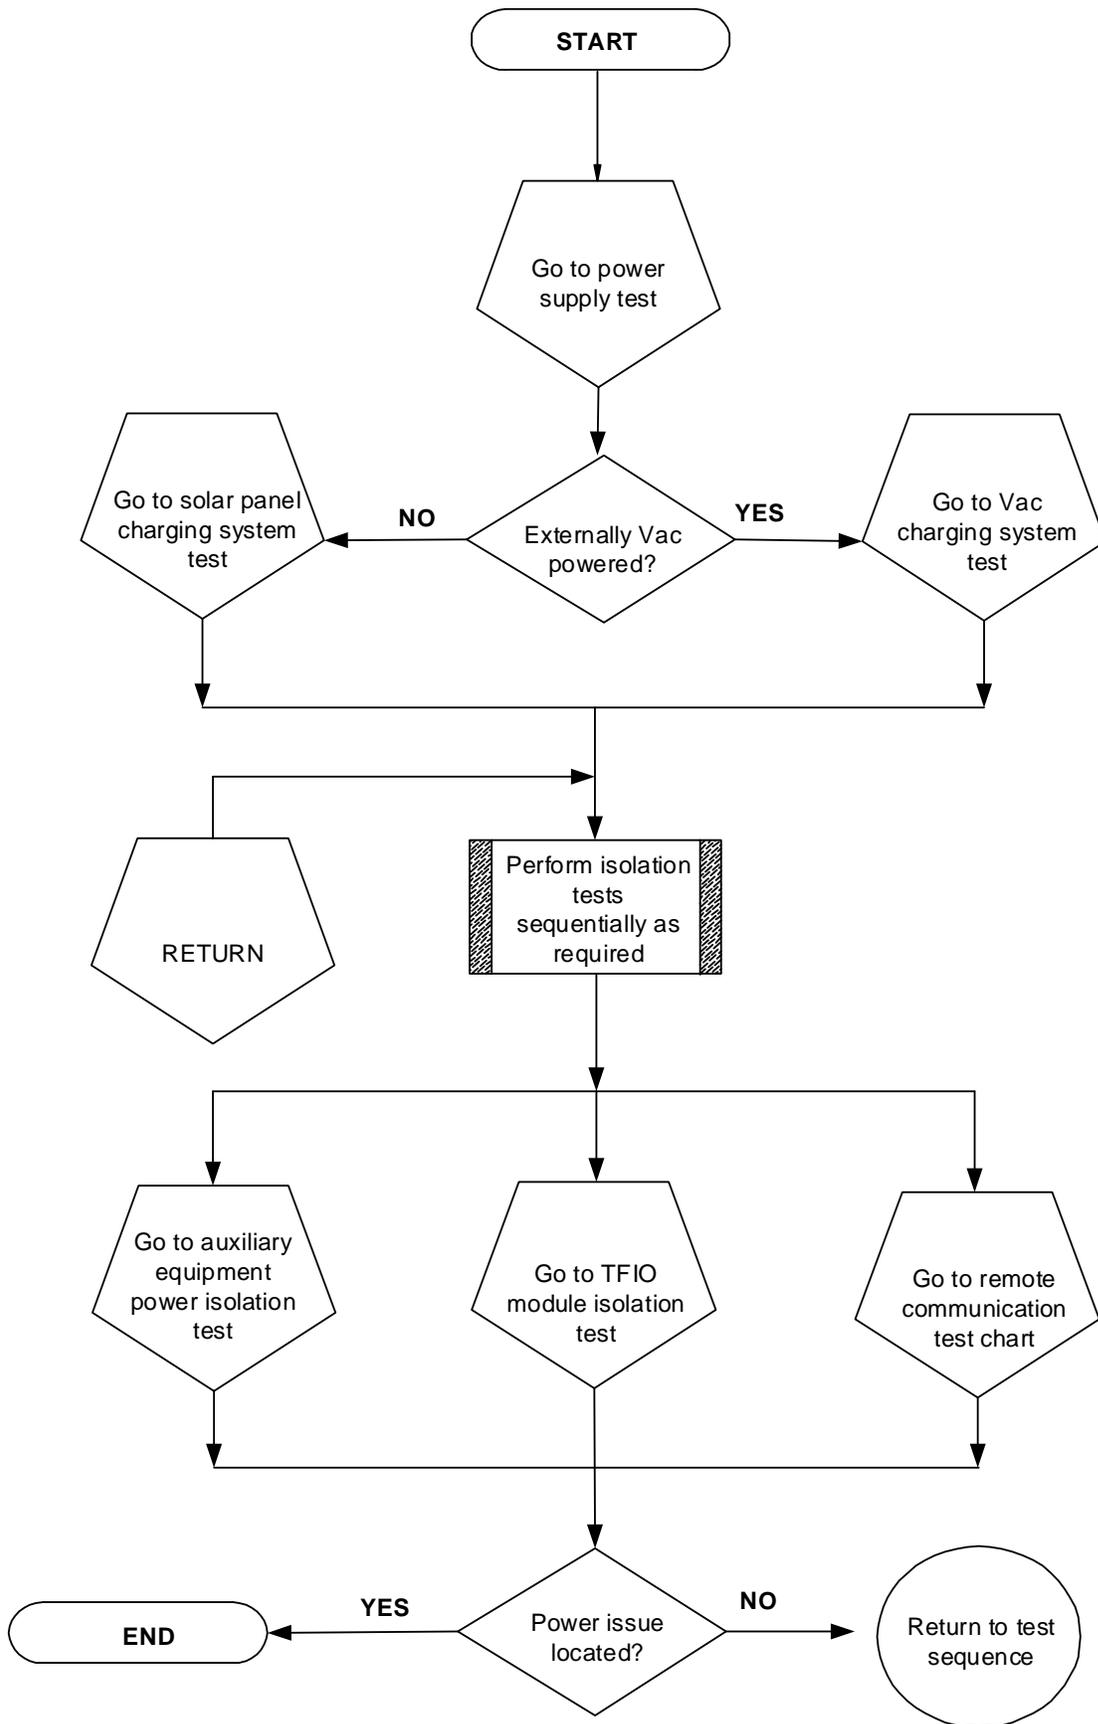
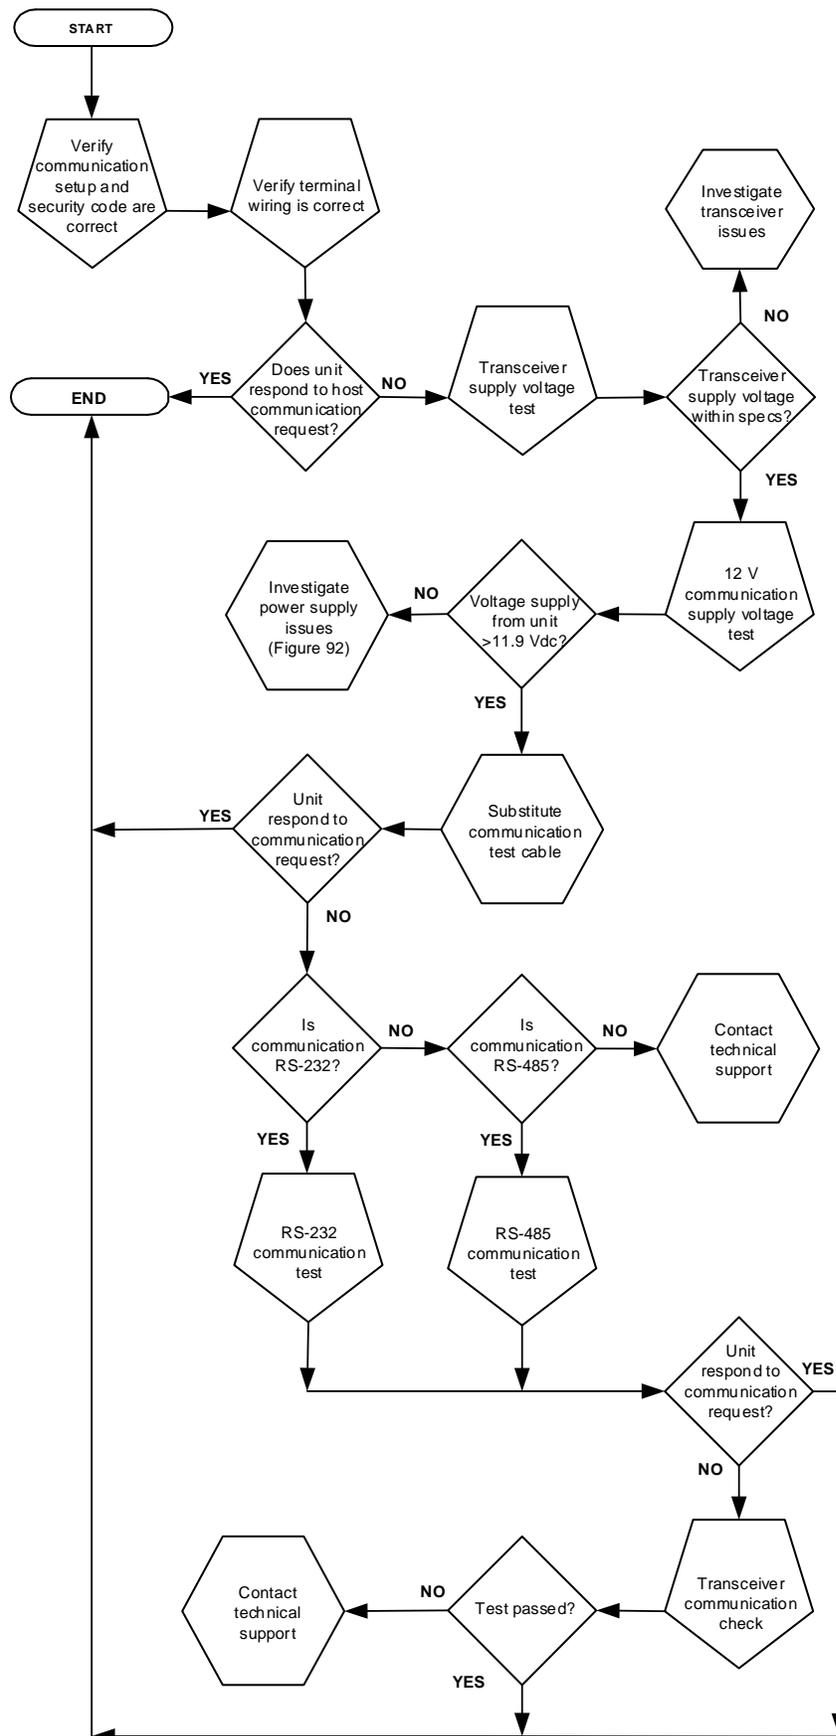

Figure 92: Power troubleshooting flowchart
Figure 95: Communication troubleshooting flowchart
5. If the voltage is still low, investigate the power issues using the *Power Troubleshooting* flow chart (Figure 92 on page 128).
9.2.2 Troubleshooting a Low Lithium alarm (LL)
This section focuses on determining what has caused the μ FLO^{G5} to lose power. Generally, loss of power can be attributed to only the power supply system. However, if the power supply system is used for powering a transceiver or other peripheral equipment, an issue with that equipment may drain the battery and cause the μ FLO^{G5} to lose power. Notice that the *Power troubleshooting flowchart* (Figure 92) outlines several tests but may also indicate using the *Communication troubleshooting flowchart* (Figure 95, on page 133).
11. Measure the voltage at the charging source cable. Measure the voltage at the battery. Compare the voltages. If the charging source voltage is less than (+) 0.4 Vdc higher than the battery voltage, return to Figure 92, *Power troubleshooting flowchart*, on page 128.
17. If an issue still exists, return to Figure 92, *Power troubleshooting flowchart*, on page 128.
9. If an issue still exists, return to Figure 92, *Power troubleshooting flowchart*, on page 128.
5. Using the DMM, connect to the troubleshooting cable, and measure the average current. If it is equal to or greater than 80 mA at 12 Vdc, disconnect the battery and reconnect one (1) auxiliary item and continue to the next step. If the average current is less than the specification, replace the μ FLO^{G5} electronic board. Follow the procedures detailed in section 7.8.4, *μ FLOG5 electronic board replacement*, on page 103.
8. If the power drain has not been located, return to Figure 92, *Power troubleshooting flowchart*, on page 128.
Troubleshooting the communications for this unit requires that both pieces of equipment are tested: the flow computer communication ports and the communication device. Other communication troubleshooting information is given in the following categories: RS-232, RS-485, and RS-422 Communications. Use Figure 95 as an aid for troubleshooting communication problems.
- When the unit is transmitting to the host, the voltage should vary between -5 Vdc and +5 Vdc. This indicates that the unit is transmitting data. If the unit is still not responding, return to the *Communication troubleshooting flowchart* (Figure 95, on page 133) and continue.